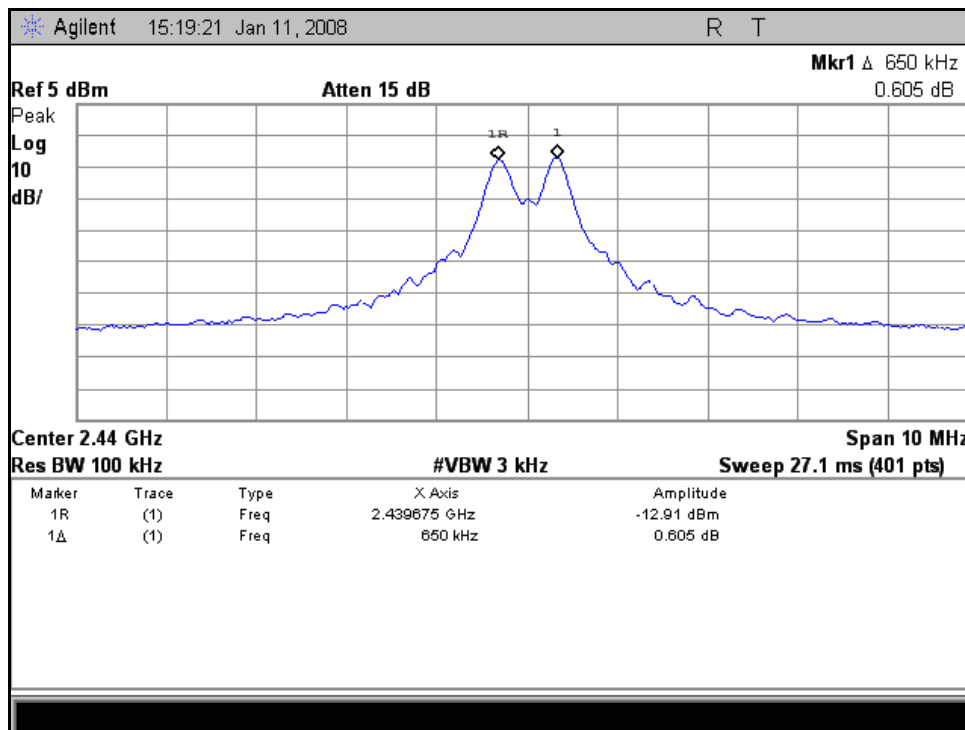

Figure 12. Spectrum showing nRF device deviation
The succession of changes between the high and low frequency creates a frequency spectrum called the transmit (TX) spectrum of the radio. If the modulation data changes with a periodical low rate the two FSK frequencies dominate the TX spectrum, see Figure 12. This setup makes it easy to measure the deviation
of a nRF device (indicated by the markers in Figure 12.) and as shown, the bandwidth increases but the peak power level decreases compared to the pure carrier wave spectrum. This is because the carrier power is now spread over a wider frequency area called the modulation bandwidth.
The modulation bandwidth depends on the modulation type (for example, FSK or GFSK), deviation, data rate and the actual data sent. With a nRF device, modulation type and deviation are set by the chip design, so the spectrum in Figure 12. is of limited interest. What is interesting is the maximum modulation bandwidth of the radio in normal operation. To get a representative picture of the maximum modulation bandwidth on a specific data rate a Pseudo Random Bit Sequence (PRBS) should be used as actual payload data and the device should be set to send data packets as in a normal application. The PRBS sequence ensures an equal number of logic 0 and 1 in a random sequence is sent, mimicking the normal behavior of a transmitter.